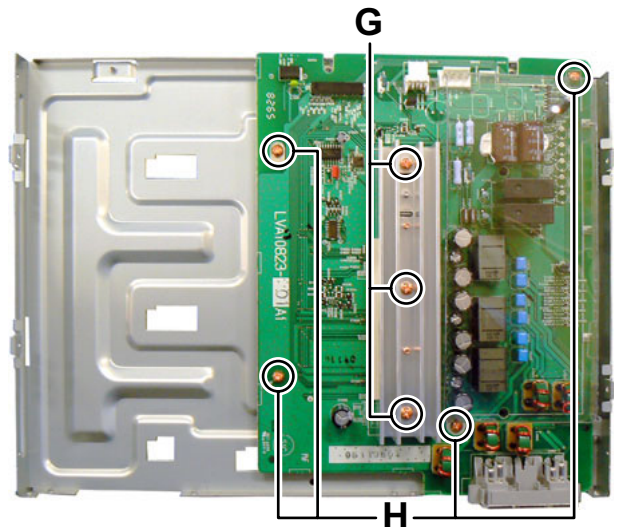

Fig.11
3.1.4 Removing the Amp board (See Fig.11)
- (5) Take out the pickup assembly from traverse mechanism chassis by order. (See Fig.11)